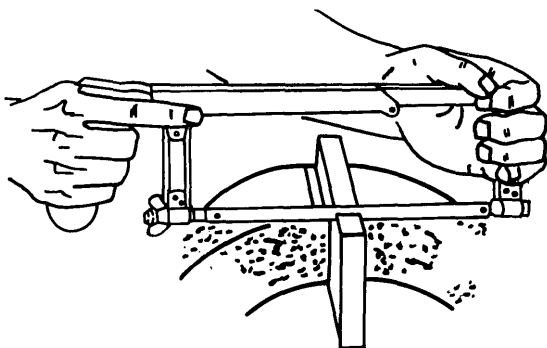

Figure 4-100. Proper Way to Hold a Hacksaw
(2) Place the stock to be cut in a vise. Maintain a minimum of overhang to reduce vibration, give a better cut, and lengthen the life of the blade. Ensure that the layout line on the stock is outside of the vise jaw so that the line is visible during sawing.
(3) Hold the hacksaw as shown in figure 4-100.
(4) When cutting, apply pressure on the forward stroke, which is the cutting stroke. Do not apply pressure on the return stroke. Use long and smooth strokes. Do not exceed 60 strokes per minute.